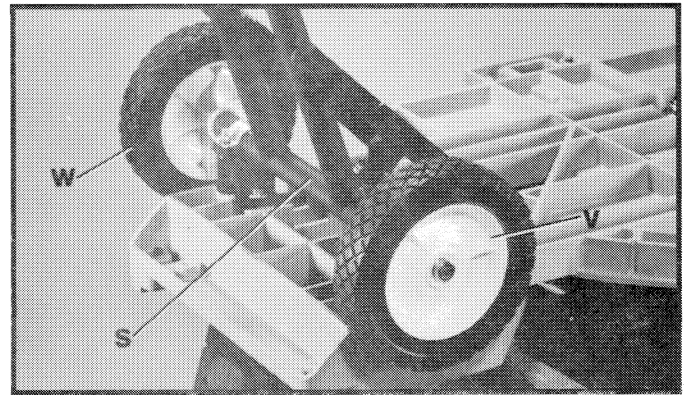

Fig. 6
8. Place wheel (V) Fig. 6, on axle and insert axle through the two nylon bushings in leg brace (S). Assemble wheel (W) and push nut to other end of axle, as shown in Fig. 6.